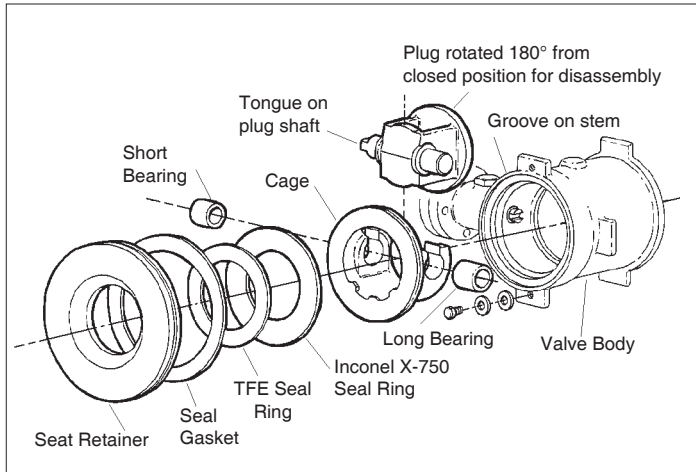

FIGURE 4: Quick Change Trim Parts
- If at the body assembly (BA) level, ensure that the stem subassembly (7) is pulled back into the bonnet of the body (1) so that the stem (7) is in contact with the retainer sleeve subassembly (8).
- Place plug (6) into cage (2). The orientation must be such that the short stub shaft of the plug (6) with the machined tongue extends through the flat side of the cage (2) toward the stem (7). The plug (6) must be rotated 135° to 180° open before the plug (6) stub shafts will slip into the cage's (2) bearing (4) (5) slots. See figures 4 and 5.